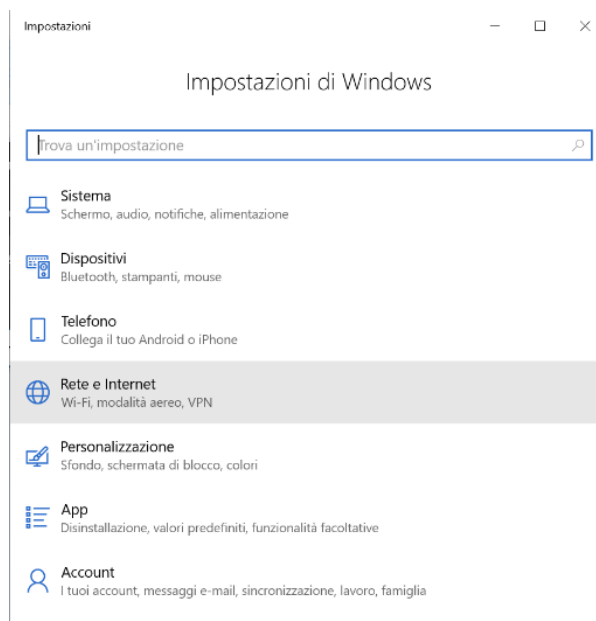

Fig. 9
3. Choose Network and Internet (Fig.9)